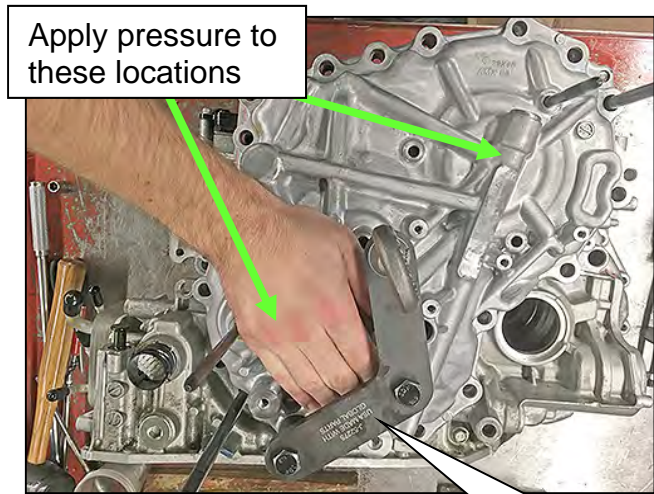

Figure 119
92. Remove the Side Cover Alignment Aid (# J-52275) shown in Figure 119.